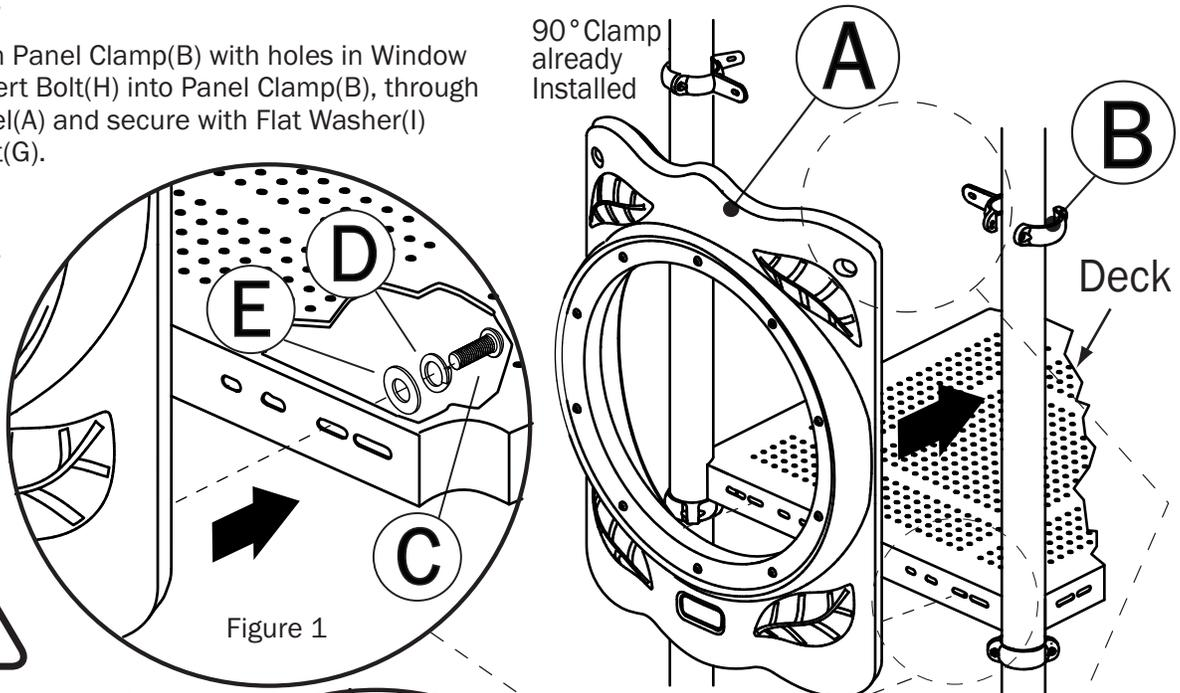

Figure 1
2. From underside of Deck, insert Bolt(B), Lock Washer(C) and Flat Washer(D) into center slot in Deck and lightly tighten. See *Figure 1*.
3. Repeat steps 1 and 2 for the remaining (2) Bolts(B).
4. Tighten Bolts(B) securely
1. From front side of Slide Hood(A), insert Bolt(D) and Flat Washer(E) into hood, through Deck and secure with Flat Washer(E) and Lock Nut(F). See Figure 1.
- Place Window Panel(A) against side of deck. Align bottom holes in Window Panel(A) with slots in Deck.
- From underside of Deck insert Bolt(C), Lock Washer(D) and Flat Washer(E) into slot in Deck and into threaded insert in Window Panel(A). Lightly tighten. Repeat for other side. See Figure 1.
1. Insert shaft of Clamp(B) onto tube of Entry Archway(A) and secure with Bolt(C) and Lock Washer(D). See *Figure 1*.
2. Place Clamp(B) into position against Upright and enclose Upright with Clamp(B).
3. Align holes in Clamp(B), Insert Bolts(C) and secure with Lock Nut (E). See *Figure 1*.